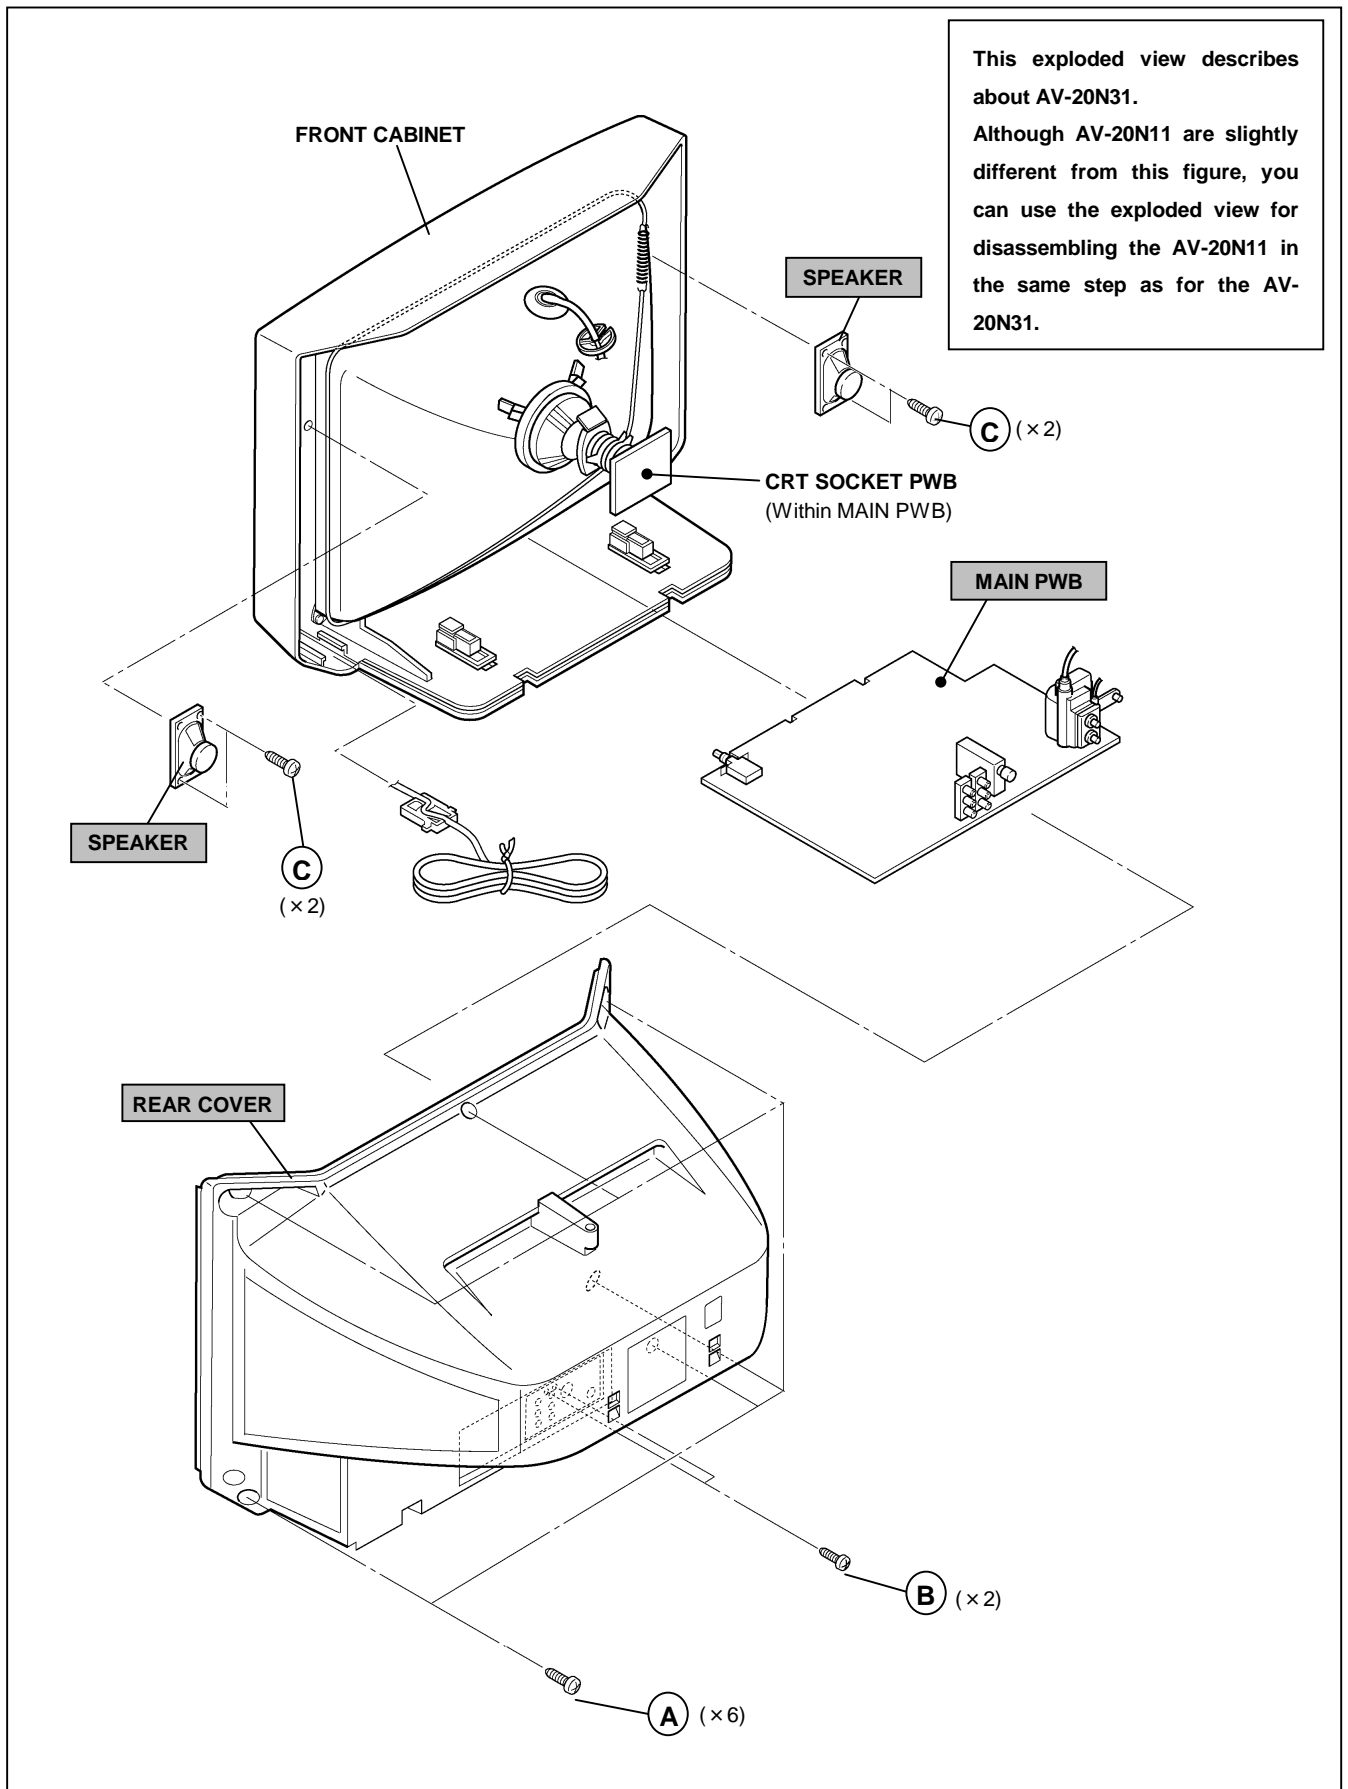

Fig. 1
1. Remove the 2 screws marked (C) as shown in Fig.1.